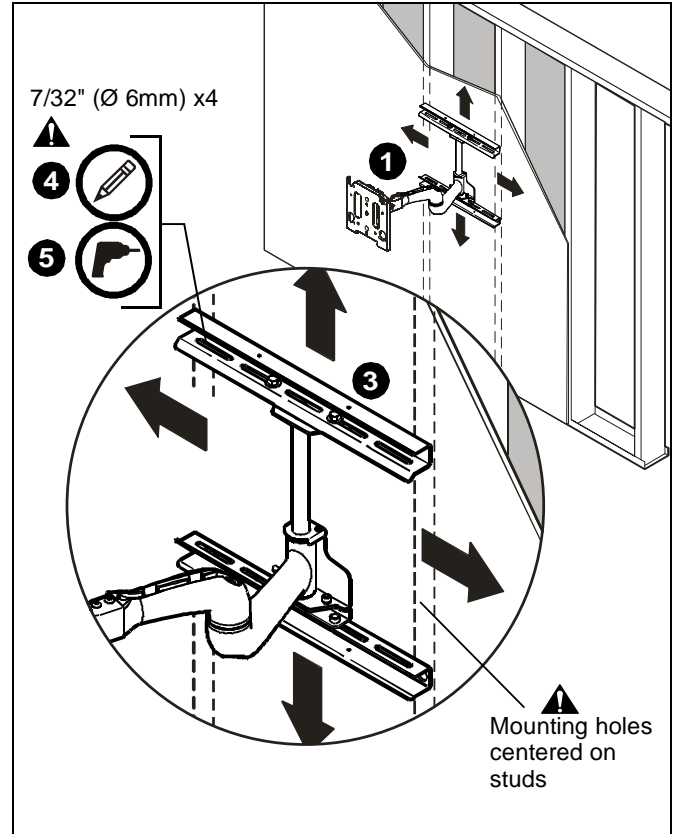

Figure 2
2. Using a stud sensor locate two wood studs 16" apart on center. (See Figure 2)
3. Using two people, place mount against wall and level mount aligning mounting holes in upper and lower wall channels with studs. (See Figure 2)
4. Use a pencil mark four mounting holes making sure mounting holes are located as close as possible to center of studs. (See Figure 2)
5. Drill four pilot holes where the mounting holes were marked using a 7/32" (6mm) drill bit. (See Figure 2)